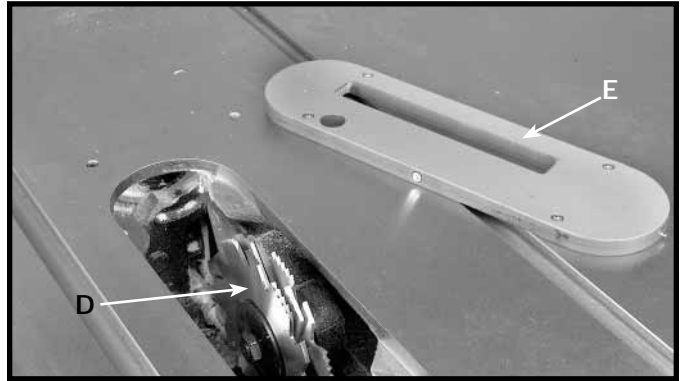

Fig. S20
⚠CAUTION The accessory dado head set table insert (E) Fig. S20, must be used in place of the standard table insert.
2. Attach the dado head set (D) Fig. S20, to the saw arbor. **NOTE: If the arbor nut does not fully engage the thread on the arbor, remove the outside arbor flange and tighten the arbor nut against the dado head set body. Do not lose the outside arbor flange. It will be needed when reattaching a blade to the arbor.**